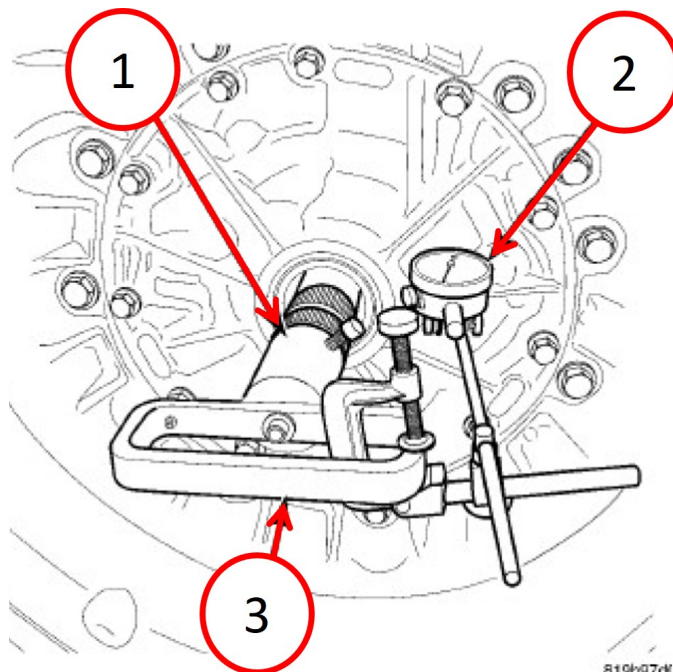

Fig. 3
- Using special tools Adapter Socket, End Play 8266-22 and the handle from End-Play Tool Set 8266B and Dial Indicator C-3339A, measure and record the input shaft end-play Fig 3.